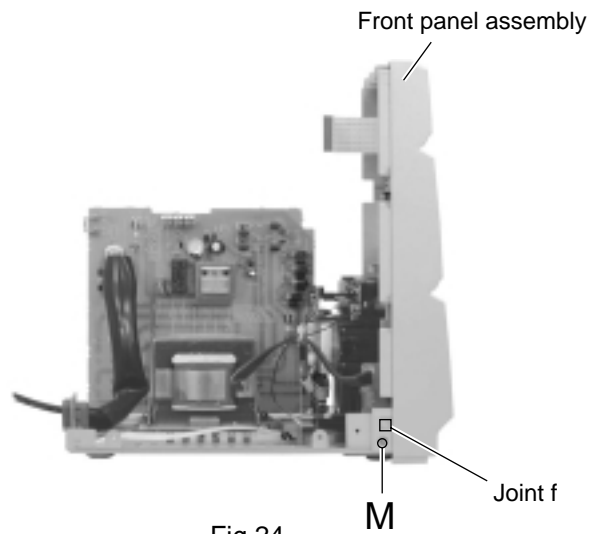

Fig.24
■Removing the front panel assembly (See Fig.24 and 25)